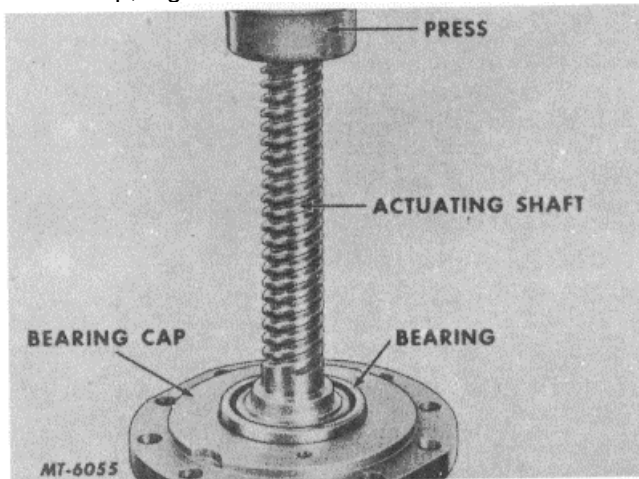

Fig. 33
14. Press actuating shaft assembly into the bearing cap, Fig. 33.